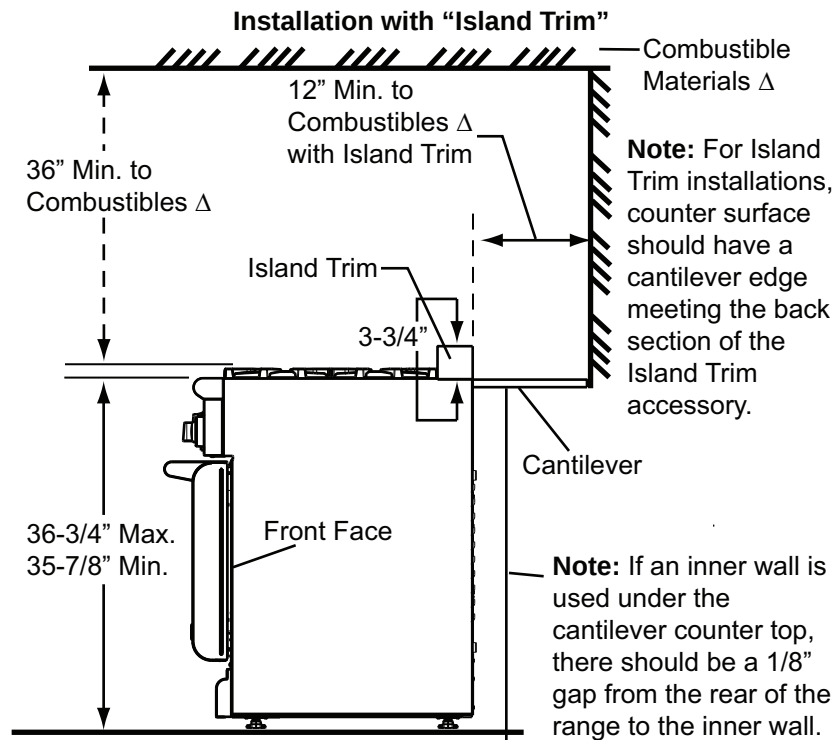

Figure 2: Side View
2. The 36" ranges may be recessed into the cabinets beyond the edge of the front face of the oven (See Figure 2). The 30" and 48" ranges are not approved to be installed flush with the cabinets
5. When there is less than a 12" horizontal clearance between combustible material Δ and the back edge of the range above the cooking surface, a Thermador Low Back or Pot and Pan Shelf must be installed. (See Figure 2). When clearance to combustible material Δ is over 12", a Thermador Island Trim may be used. (See Figure 2). Figure 2 indicates the space required for each type of backguard.
6. A three (3) inch minimum clearance is needed when the range is installed beside a combustible side wall.
- The range has an approximate shipping weight as shown in "Chart A". The grates, griddle plate, burner caps, front kick panel, and oven racks must be removed to facilitate handling. Removing the door(s) is also recommended. (See "Step 8: Door Removal and Reinstallation" on page 18) This will reduce the weight as shown in "Chart A" and allow the range to pass through 30" doorways. See Figure 2 on page 6. **Do not remove the griddle element and tray assembly.**